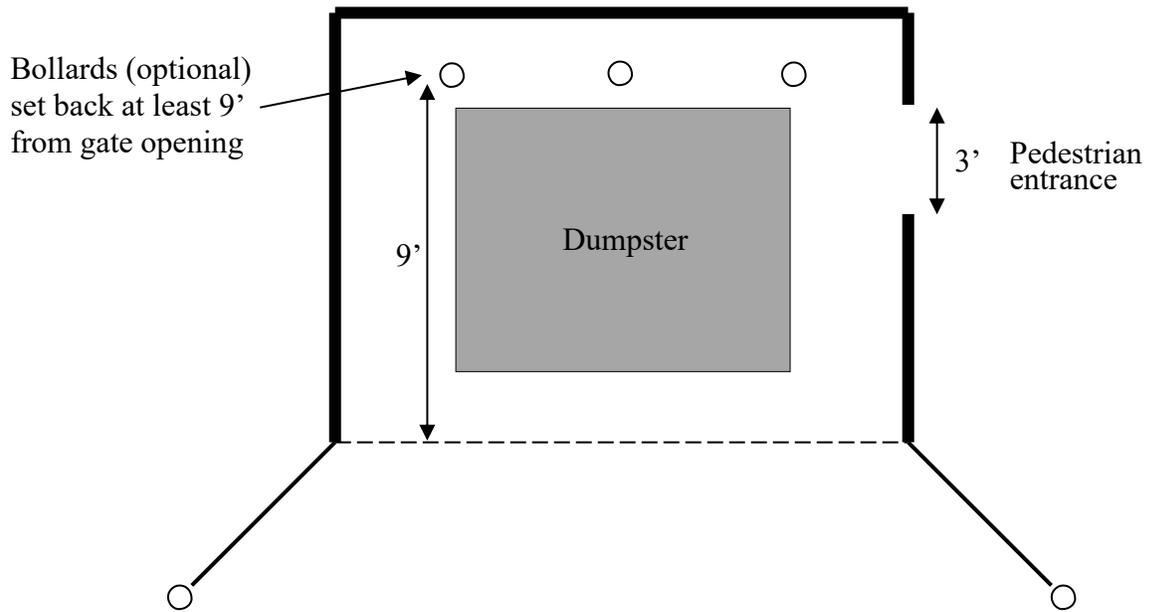

Figure 6. Typical Exterior Enclosure, Bollard and Pedestrian Entrance Locations
- D. Minimum 3'-wide pedestrian entrances are a preferred design feature of all solid waste enclosures. Multi-family residential or mixed-use properties (residential and commercial uses) utilizing 3-yard or larger containers must provide a minimum 3'-wide pedestrian entrance to the enclosure separate from the gate access used for the collection vehicle (see Figure 6 at end).
- G. If bollards are placed inside the enclosure to protect the back wall, they must be located at least 9' back from the enclosure gate opening. Bollards cannot be placed within or near an enclosure in such a way as to restrict dimensions of the gate opening (see Figure 6 at end).